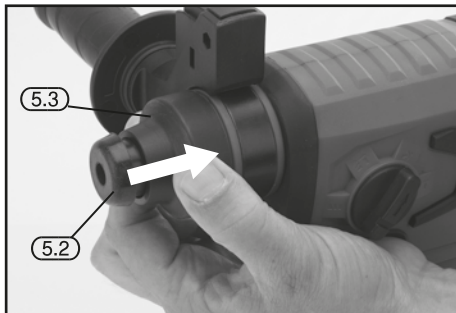

FIG. 10
9.6 SDS+ SYSTEM – FIGS. 10 – 11